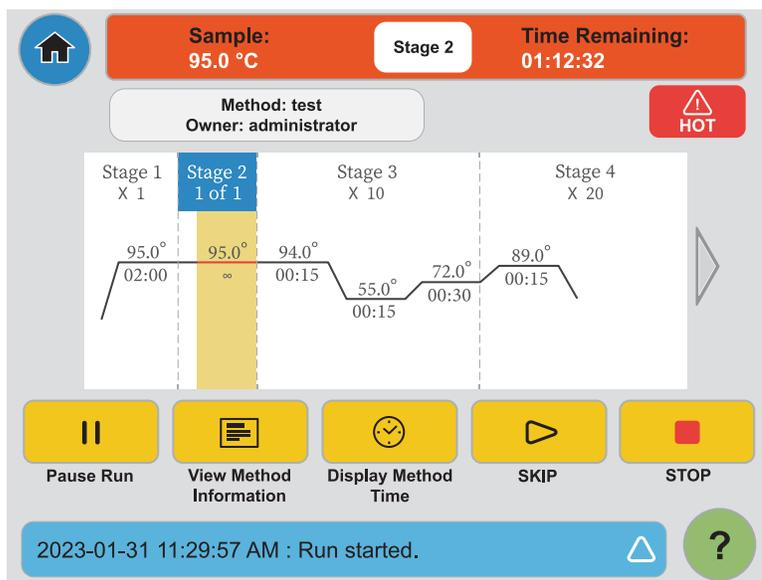

Figure 51 Infinity hold step.
2. When an infinity ( $\infty$ ) hold step occurs, the **Time Remaining** display stops. Perform the required assay step during the hold. (Figure 51.)